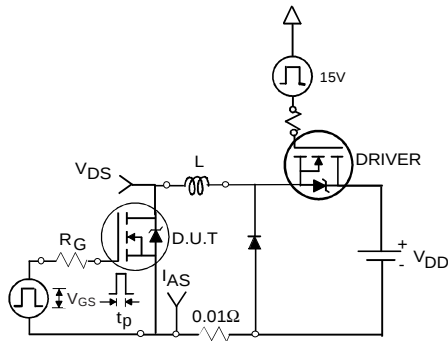

Fig 12a. Unclamped Inductive Test Circuit
- ③ Pulse width $\leq 1.0ms$; duty cycle $\leq 2\%$.
- ④ $C_{oss \text{ eff.}}$ is a fixed capacitance that gives the same charging time as C_{oss} while V_{DS} is rising from 0 to 80% V_{DSS} .
- ⑤ Limited by T_{Jmax} , see Fig.12a, 12b, 15, 16 for typical repetitive avalanche performance.
- ⑥ This value determined from sample failure population. 100% tested to this value in production.
- ⑦ This is applied to D²Pak, when mounted on 1" square PCB (FR-4 or G-10 Material). For recommended footprint and soldering techniques refer to application note #AN-994.
3. Equation below based on circuit and waveforms shown in Figures 12a, 12b.